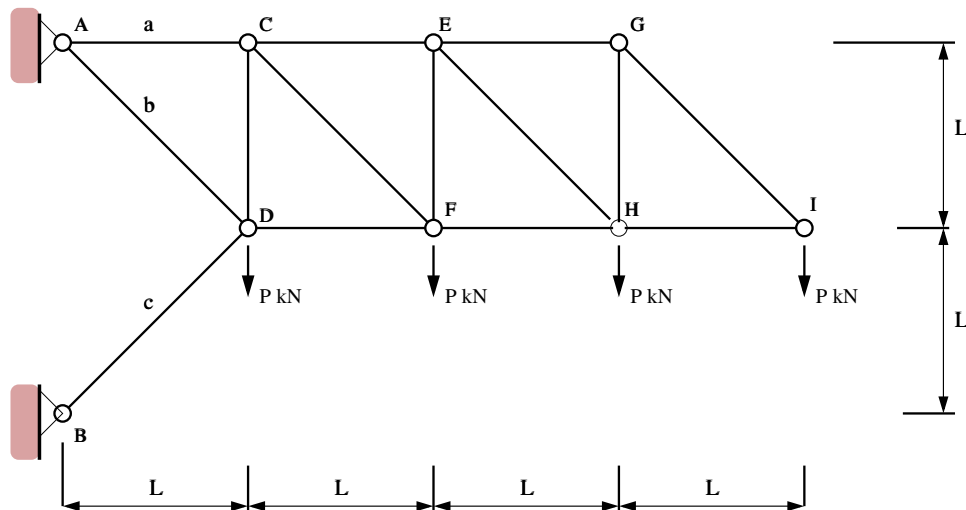

Figure 1: Cantilevered frame structure.
**Solution:** We begin by cutting the structure as shown in Figure 1.
If the maximum tensile force that any member in Figure 1 can carry is 15 kN, and the maximum compressive force is 10 kN (before buckling), what is the maximum value of loads P that can be carried.